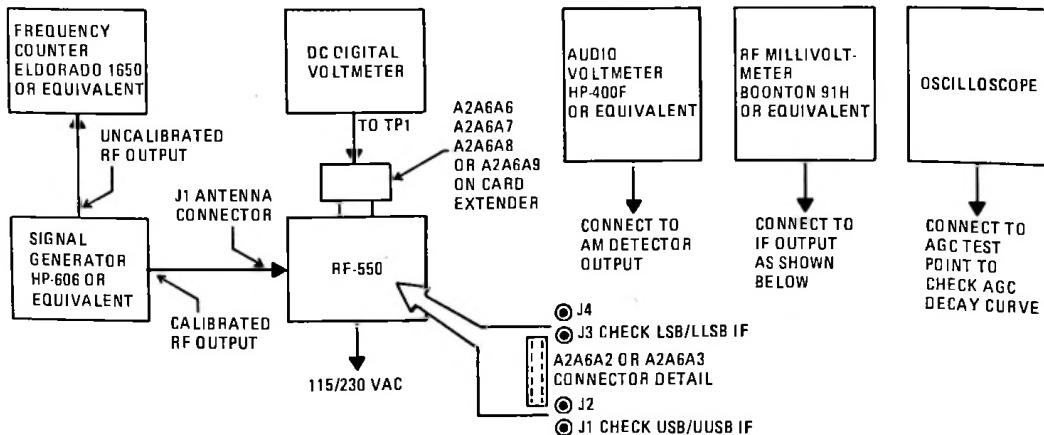

Figure 2. Test Setup for IF Amplifier Assemblies
b. Set up equipment as shown in figure 2. Switch power off on RF-550 during setup.